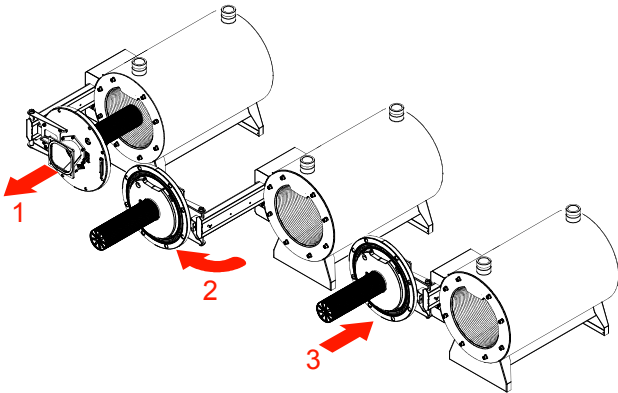

Figure 36: Burner Door Opening
- d. This unit is equipped with a sliding mechanism shown in Figure 36. Position (1) the burner assembly slides out of the combustion chamber, (2) rotate away from the combustion chamber and (3) sliding back to allow full access to the combustion chamber for inspection and service.